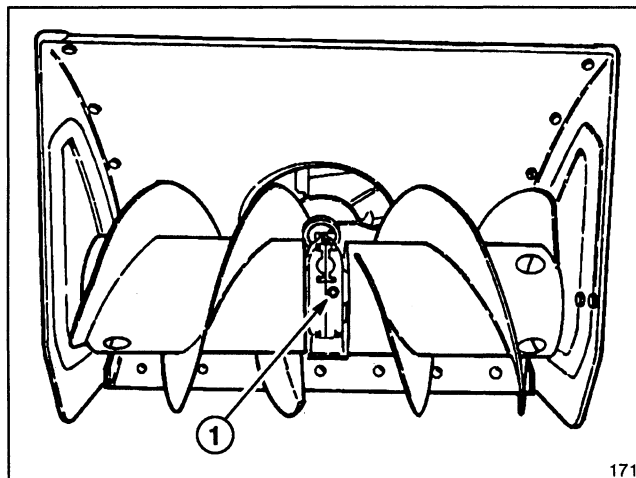

Figure 27
AUGER GEAR BOX OIL (Fig. 27)
3. Remove pipe plug from gear box (Fig. 27).